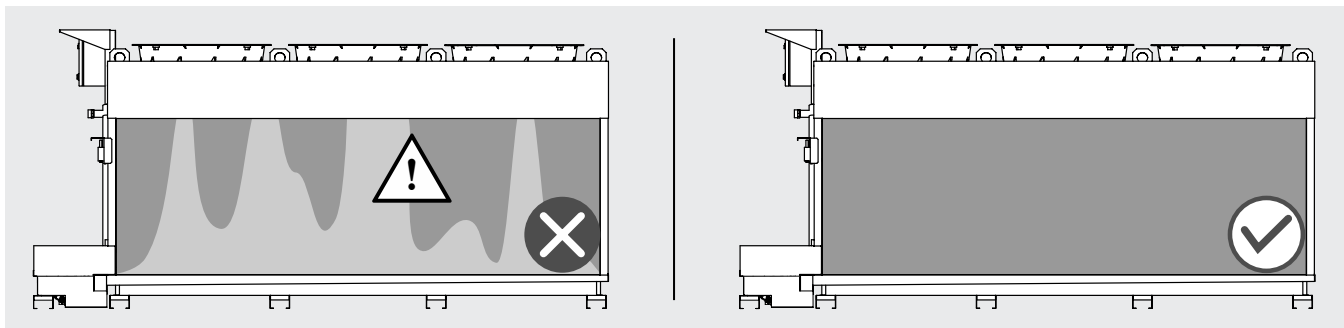

Figure 16
- 11.8 With the adiabatic system in operation, check that there is adequate water distribution on the panels: uniform darker colouring on at least 90% of the panel surface is acceptable. Please refer to point 12.28. See Figure 16.
- 12.10.1 Carry out a visual inspection of the adiabatic water distribution system on the panels. An uneven distribution of water on the outer panel (uneven colouring of the panel, see Figure 16) can be attributed to a blockage of one or more quick-connect nozzles. An abnormal flow of water during operation of the adiabatic system can be attributed to one or more damaged nozzles. If necessary, replace them as follows.